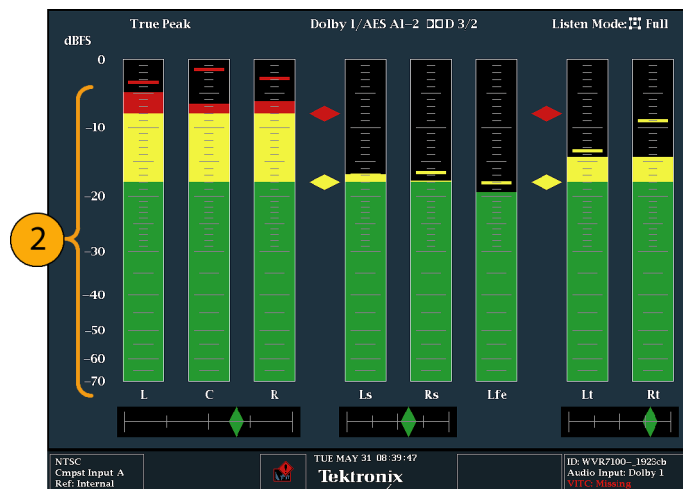

Figure 55: Audio levels
3. Check the level meter bars for current audio levels, which are displayed according to the selected meter ballistics. Each bar displays three colors. (See Figure 55.)